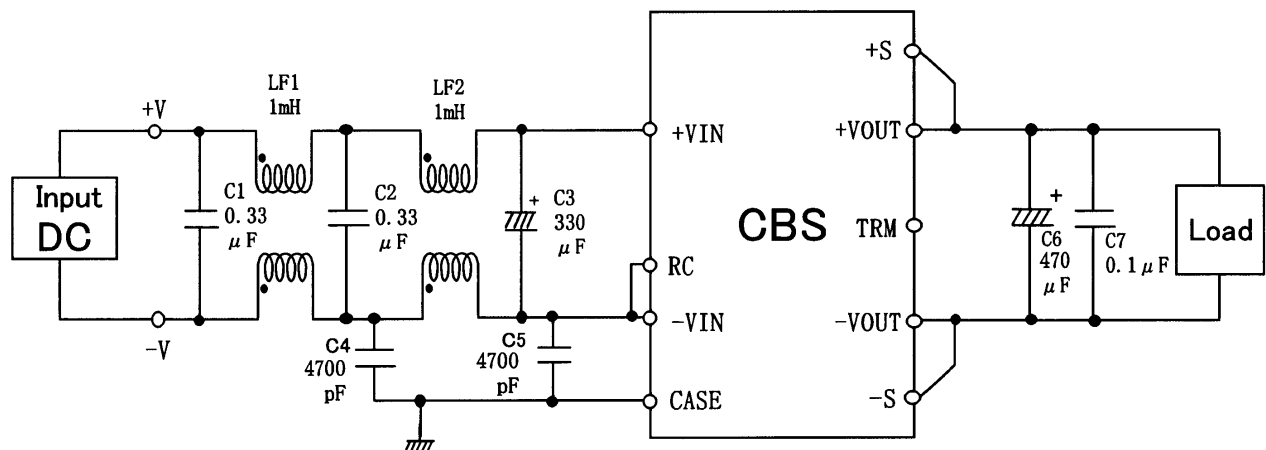

Fig.1 Testing circuitry
- (1) Input : DC24V
(2) Output : Rated output
(3) Ambient temp. : $25 \pm 10^{\circ}\text{C}$
(4) Testing circuitry : Fig.1